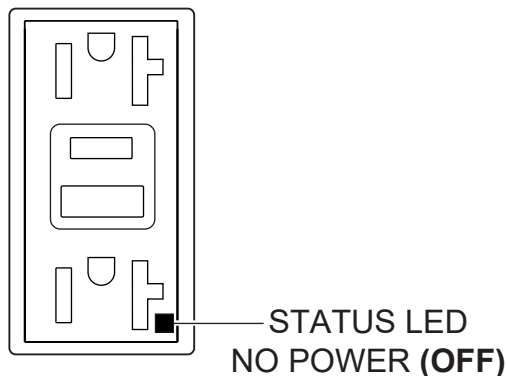

Figure 71. GFCI Receptacle (OFF)
6. Verify that the drill turns off when the **TEST** button is pressed and that the status LED on the GFCI receptacle turns **OFF** (Figure 71).